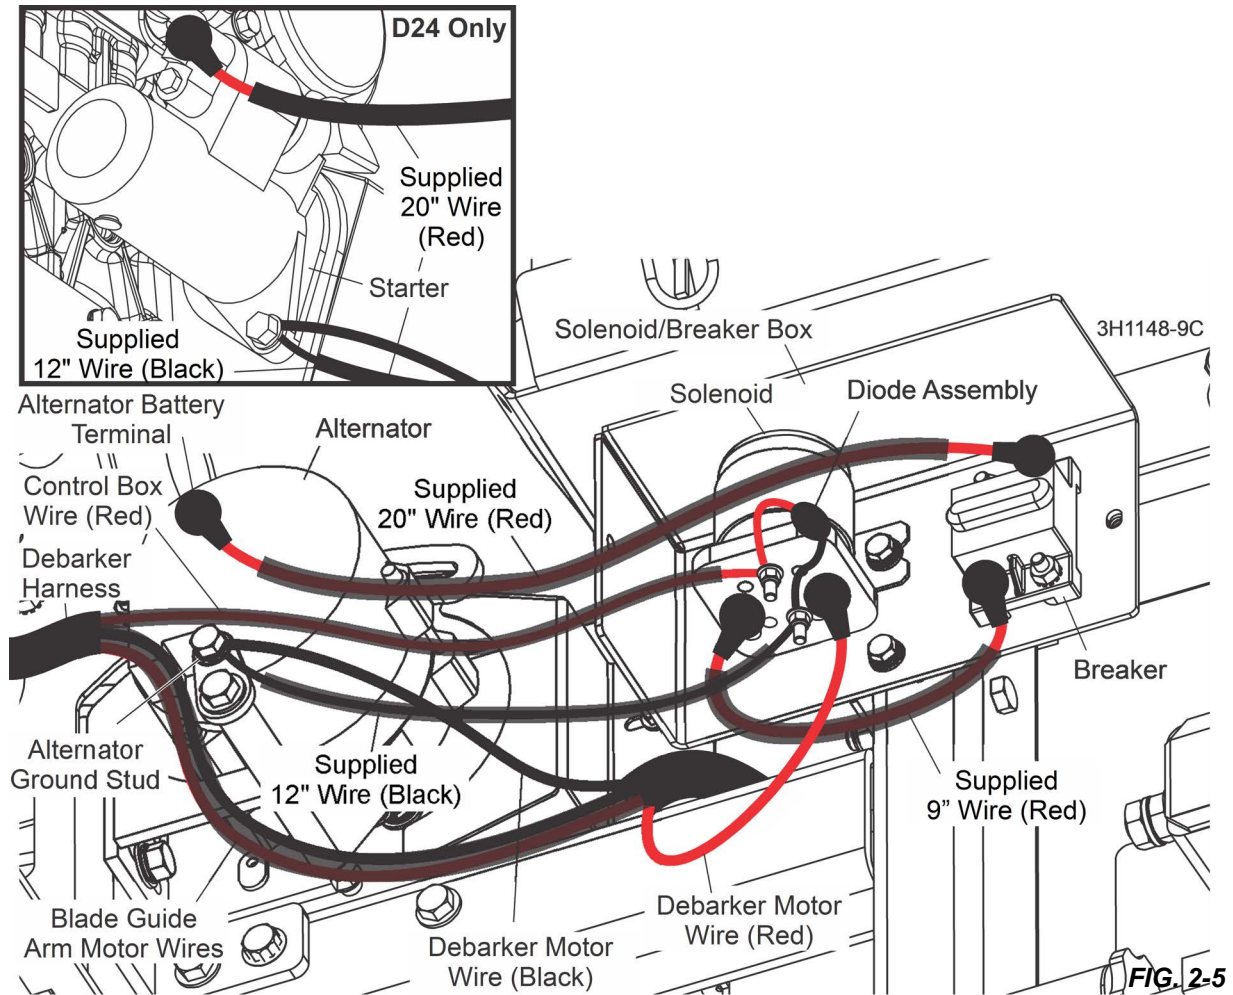

FIG. 2-5
17. Connect one end of the supplied 20" red wire to the top terminal of the breaker in the solenoid/breaker box. **See Fig. 2-5.**